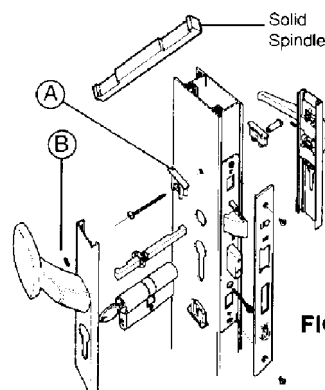

FIG. G15
- A. Attach the handle end caps (A), FIG. G15 with the screws provided.
- B. Place the square operating spindle through the lock ensuring that the flat on the spindle is in alignment with the grub screw. (B), FIG. G15.